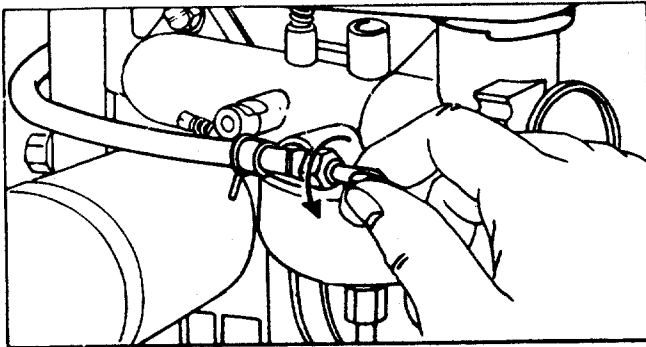

FIGURE 19.
1. Be sure the fuel shut-off valve is open. See figure 19.